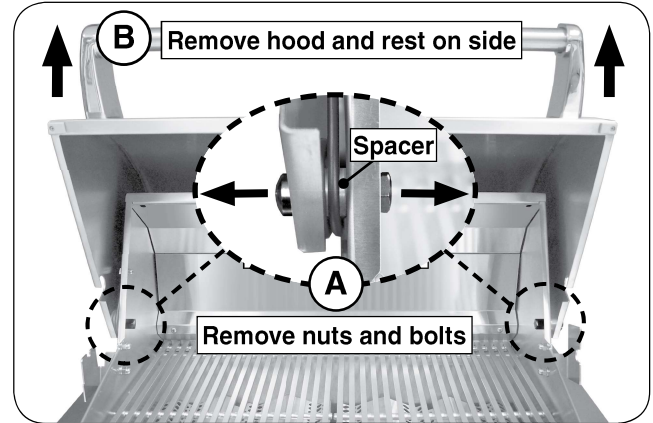

Fig. 2-2 Remove hood
2. Remove oven hood bolts and nuts from both sides as shown in Fig. 2-2, A.
3. **Using two installers**, carefully lift the oven hood from the grill and remove completely (Fig. 2-2, B). Rest the hood (on it's side) on a soft surface.
Note: Be careful with the spacers while the hood is being removed. Remove the spacers once the hood is completely freed from the grill. Reference Fig. 2-2.